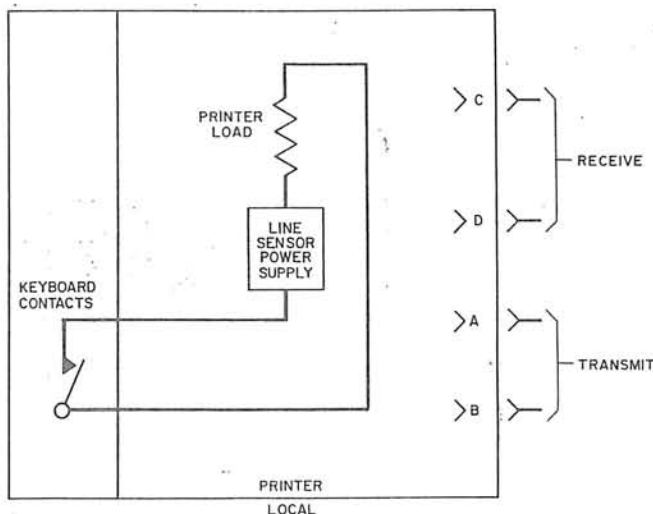

Figure 2-8. Off-Line, Mode 1 (Local)
a. MODE 1 - OFF-LINE (local mode). - In the off-line mode (see Figure 2-8) the unit functions as an electric typewriter with signal line (2.5 to 10 ma internal loop) supplied internally. Position the rotary mode switch (8, Figure 2-1) so that the notch is pointing toward number 1 (extreme counterclockwise).